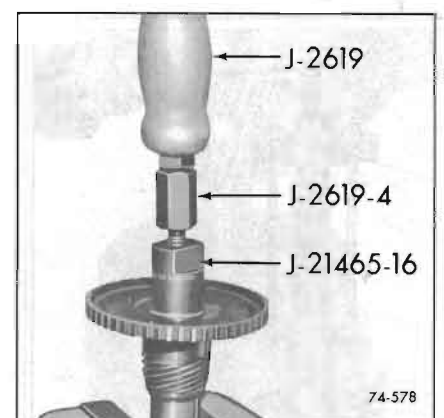

Figure 74-578
- a. Thread Tool J-21465-16 into bushing using Slide Hammer J-2619, remove. See Figure 74-578.